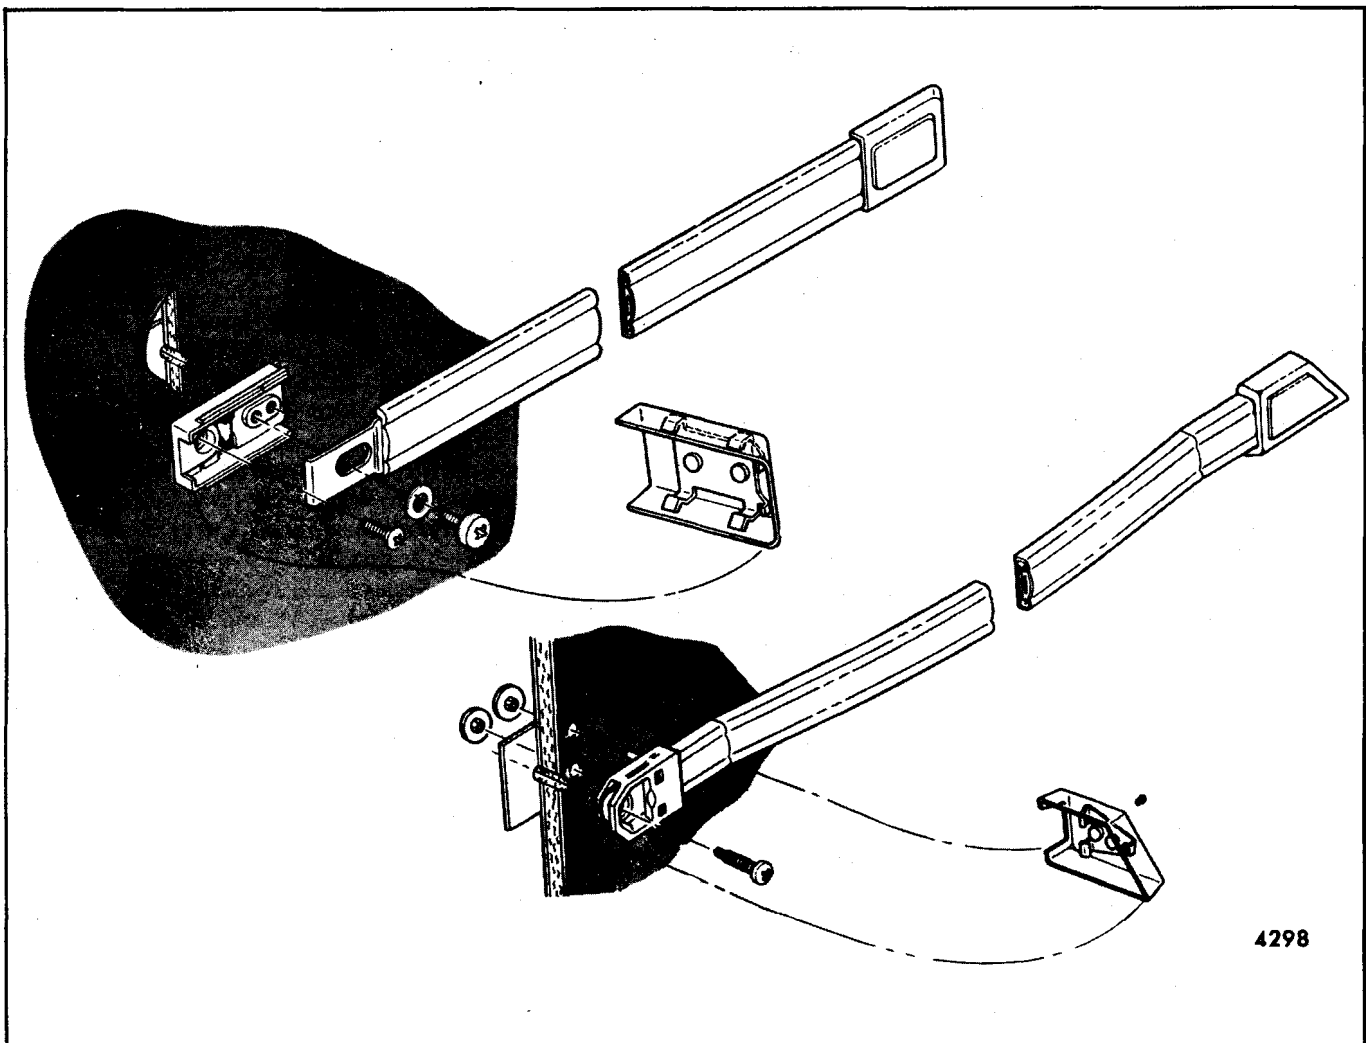
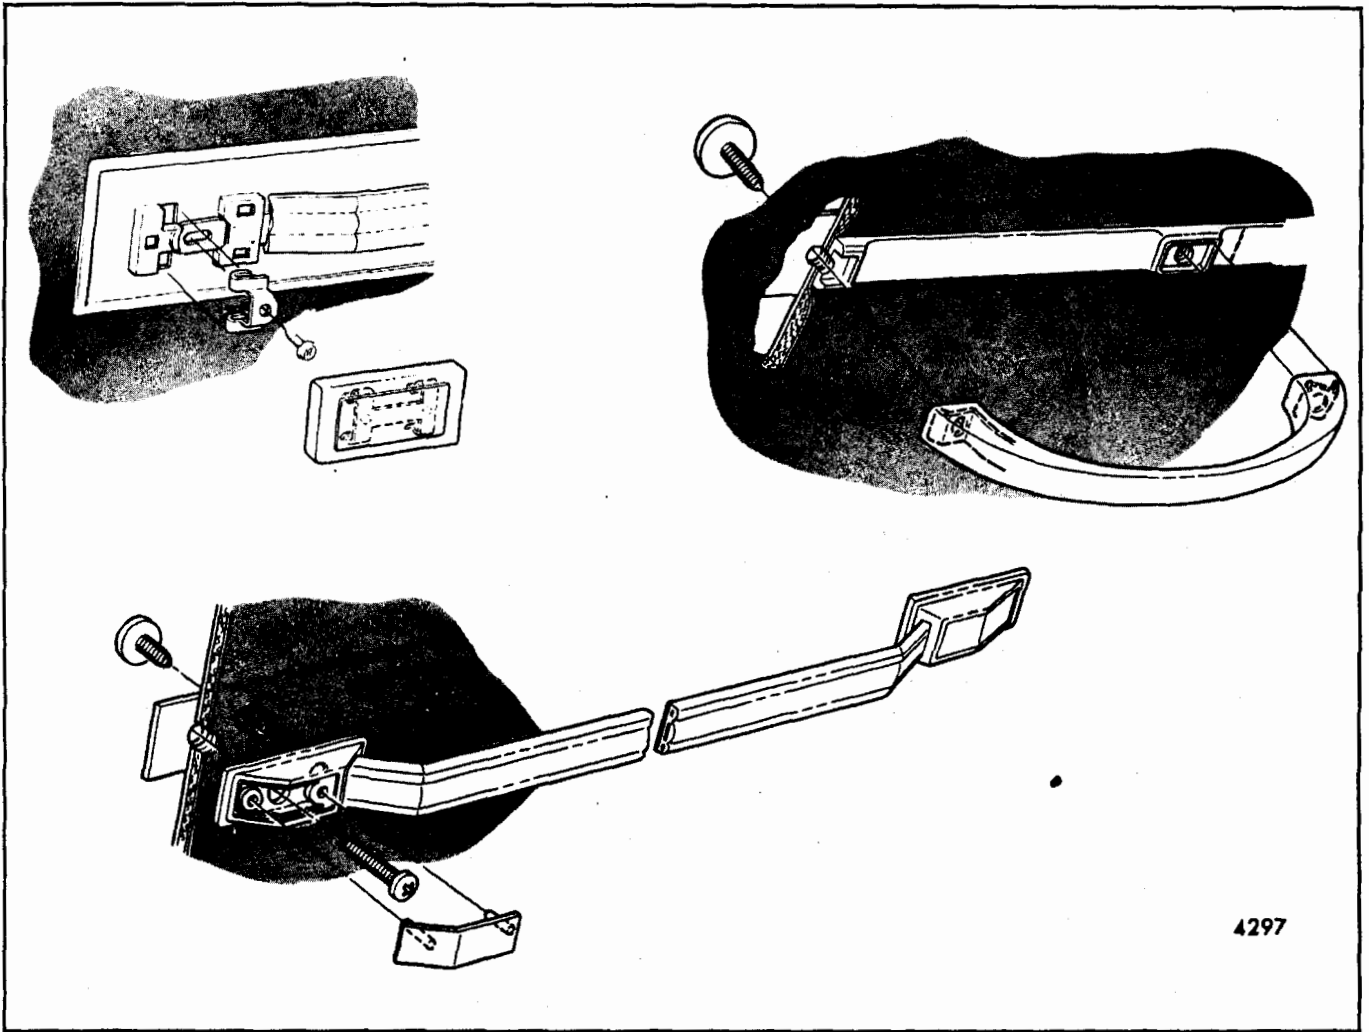

Fig. 13-1-Typical Door Pull Handle Attachment
Fig. 13-2-Typical Door Pull Handle Attachment
Door pull handles are secured to the trim pad with screws or stud nuts on the outboard (reverse) side of the trim assembly prior to trim installation. In addition, on some styles, the handles are secured to the door inner panel with screws installed from the inboard side after trim installation. With this method of installation, the pull handle and trim pad are removed from the door as an assembly (Figs. 13-1 and 13-2).
snap-on escutcheons covering the handle screws, carefully disengage the escutcheons from the retainers using a flat-bladed tool (Figs. 13-1 and 13-2). On styles with stud retained escutcheons (Figure 13-2), pry alternately from both ends of the escutcheon to prevent stud breakage during removal operation.
3. On styles equipped with door pull handles, remove screws inserted through handle into door inner panel (For location of screws, refer to Figures 13-1 and 13-2).